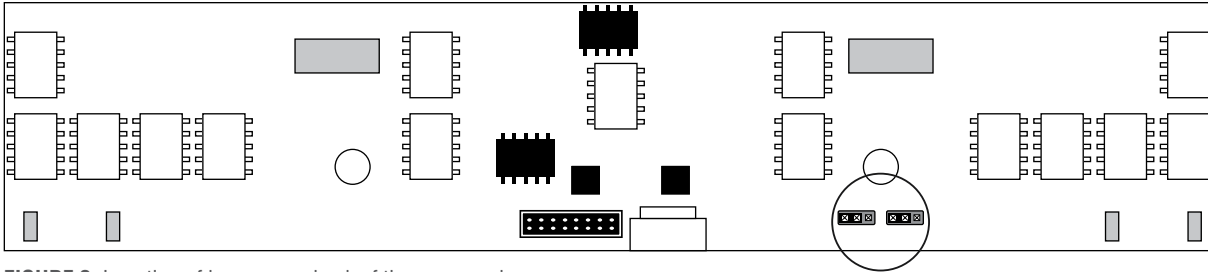

FIGURE 2: Location of jumpers on back of the rear panel
STEP 3: Locate jumper position J2 on the rear panel board of the unit. Using needle-nose pliers, move the jumper from between pins 1 and 2 to pins 2 and 3, **DISPLAY BLANKING ON.** (See FIGURES 2 and 3)